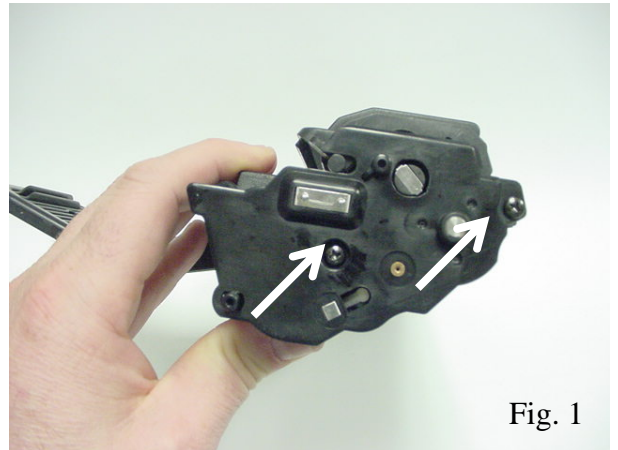

Fig. 1
1. On the end cap where the contacts are located, remove the two screws that secure the end cap (Fig. 1).